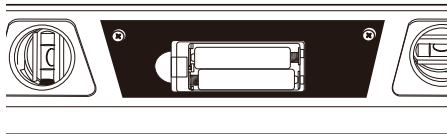

Fig.2
Battery installation (Fig. 2)
1. Open the battery cover, located in the middle of the back of the level (Fig.2).